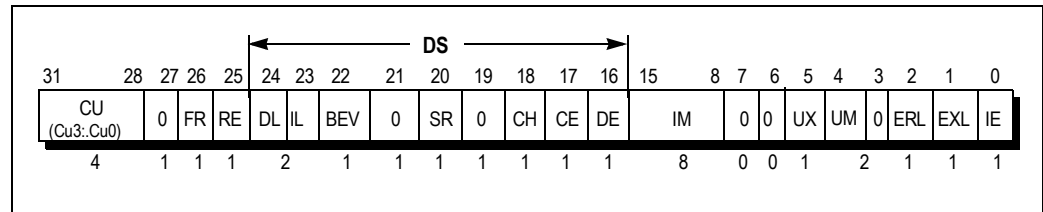

Figure 3.5 Status Register (4650)
The Status register (SR) in the RC4650 is similar to that in the RC4600 for the most part. Please refer to the previous section for details. Figure 3.5 shows the format of the entire register in the RC4650. Following the figure is a description of the fields that are unique to the RC4650.